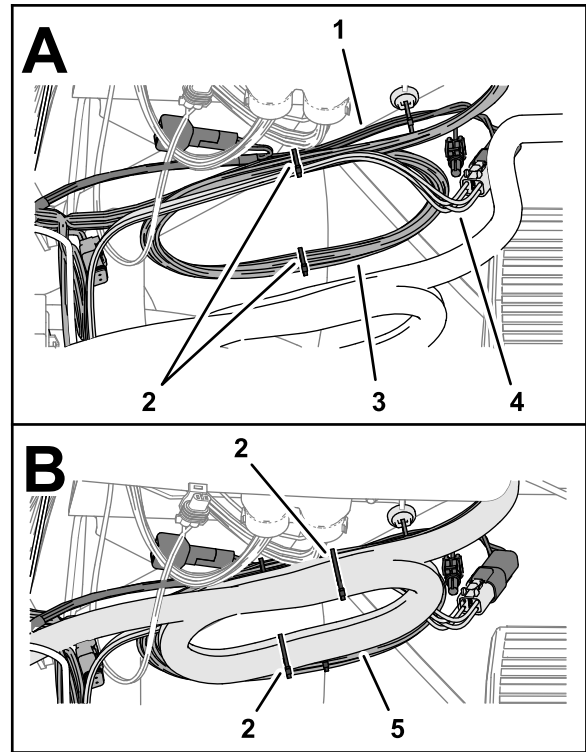

Figure 184
1. At the right, upper tube frame, bundle the navigation-data and electrical harness, and the CAN 2 ASC 10 BUS wire harness branch to the kit sprayer harness with 2 cable ties (Figure 184).
2. Bundle the modem-antenna harness and secure it to the kit sprayer harness bundle with 2 cable ties (Figure 184).